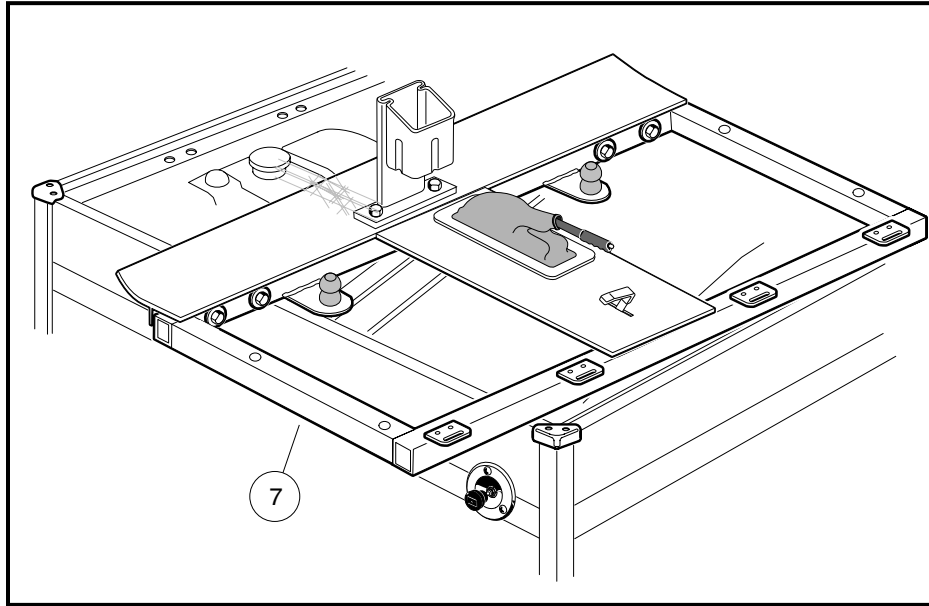

Figure 12-33 Battery Removal
- 3.3. Carefully lift and rotate the seat support (7) 90° counterclockwise and allow it to rest on the vehicle body as illustrated (**Figure 12-33, Page 12-31**). **See following NOTE.**